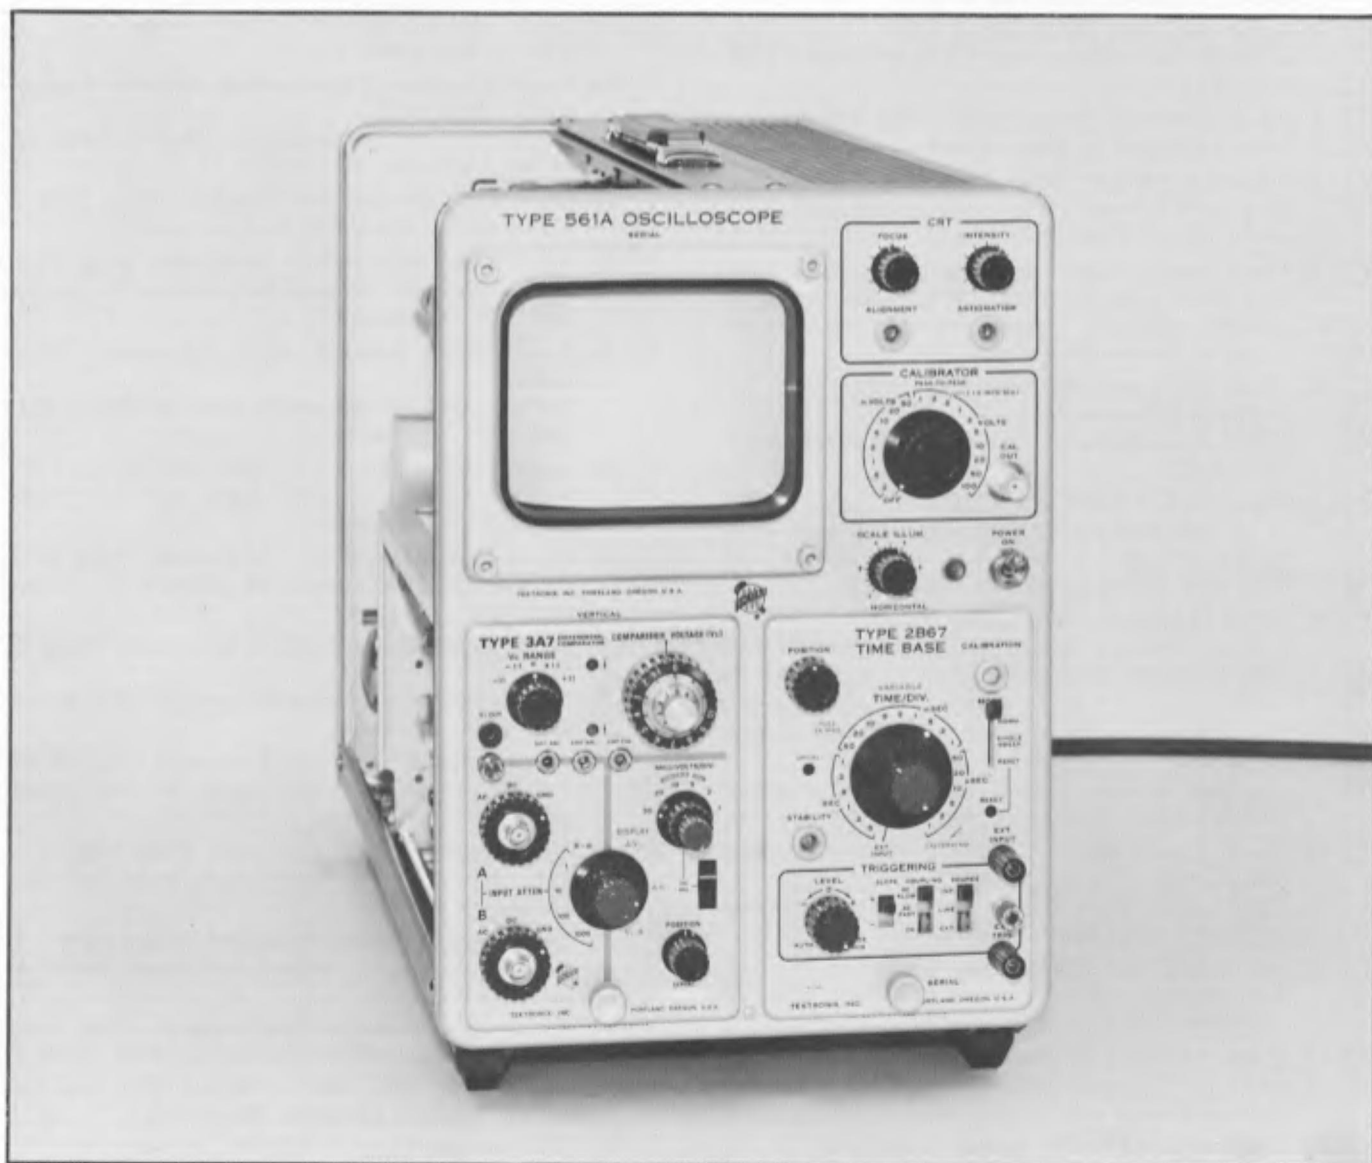

Fig. 5-4. Setup at completion of preliminary procedure.
(6) Set the oscilloscope sweep rate and triggering controls to obtain a 0.5 m/div free-running sweep. Fig. 5-4 shows the setup up to this point in the procedure.